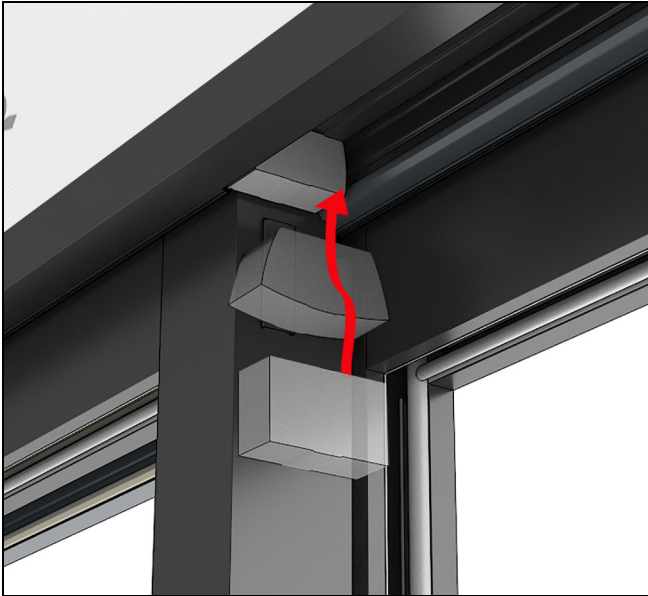

Figure 108 Exterior
1. With all the panels closed, squeeze and insert a head jamb gasket adhesive side up into the head jamb track. Position the gasket flush with the panel(s). See Figure 108.